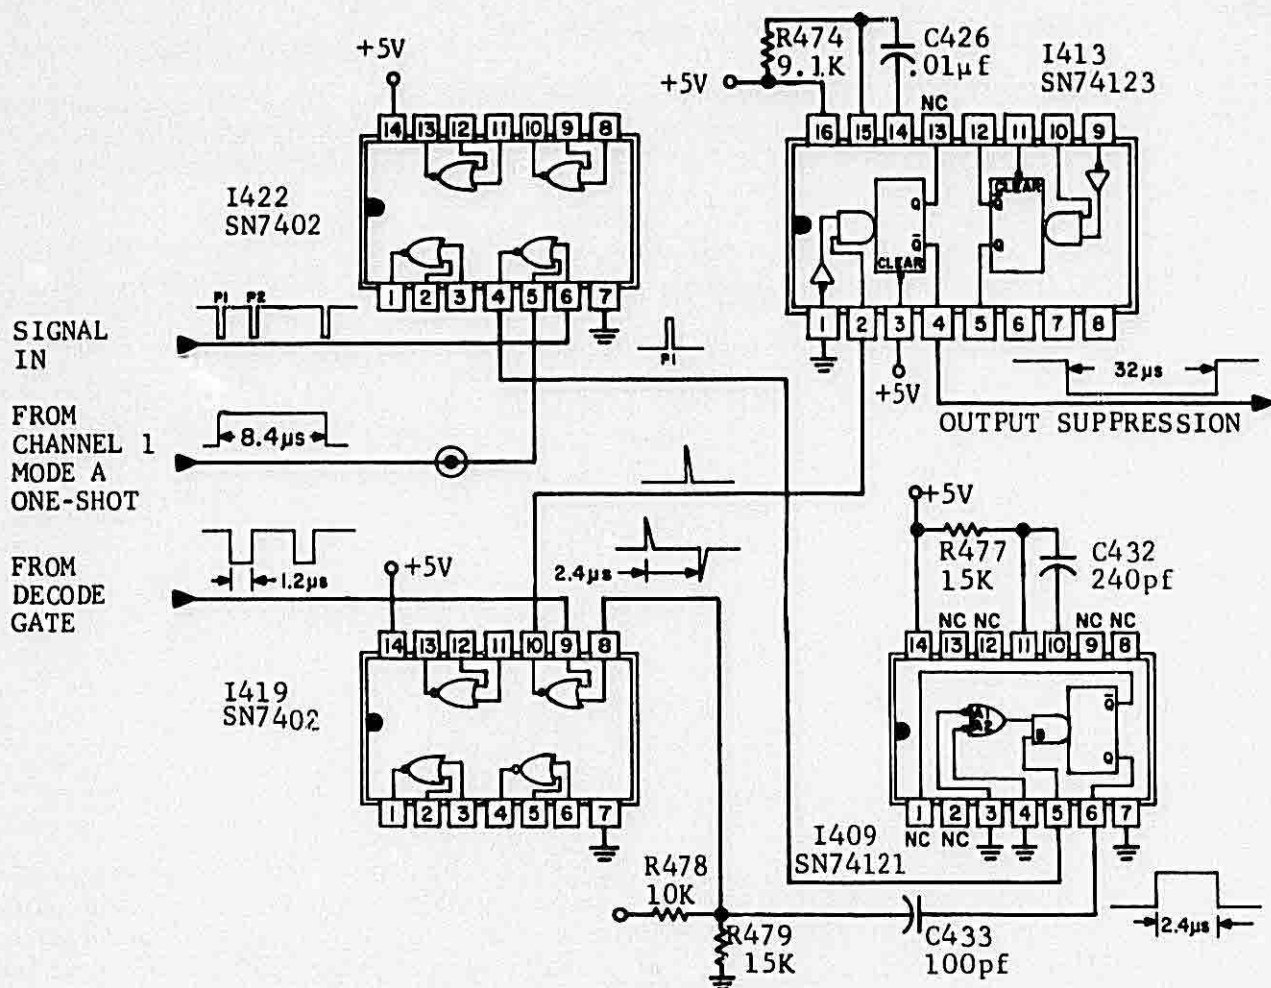

FIGURE 4-25 P2 COINCIDENCE AND SLS CIRCUIT
4.3.8 DECODE GATE GENERATOR (See Figure 4-25)
The function of the P2 Coincidence and SLS Circuit (Figure 4-25) is to detect the presence of the P2 pulse and if detected, signal the suppression gate to inhibit P3 detection. The signal enters this circuit as follows. A negative P1 appears at one input to the NOR gate I422, at the same time that the second input is going positive. The output of this NOR gate is P1 only, since the second input goes high for 8.4μsec. In this way the 2.4μsec one-shot I409, is triggered by P1 and not retriggered by P2. The output of the 2.4μsec one-shot is differentiated by C433 and R479, then input to a NOR gate I419. The second input is from the 1.2μsec Decode Gate Generator and if P2 is present it will be LO when the 2.4μsec one-shot falls. An output from I419 indicates P2 detection and is used to trigger I413, which is a 32μsec one-shot. The \bar{Q} output goes LO and closes the Suppression Gate.